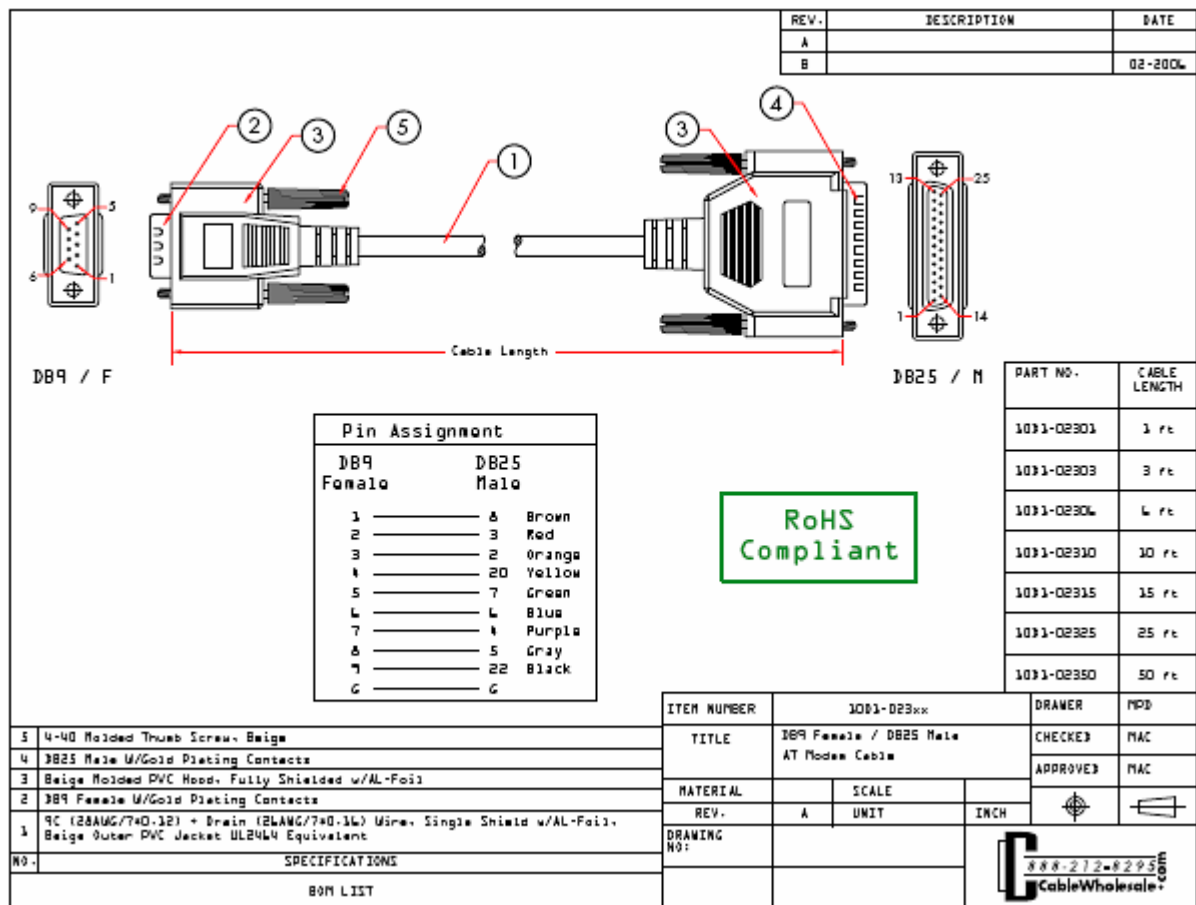

Figure-1
3. serial AT modem cable (figure-1)